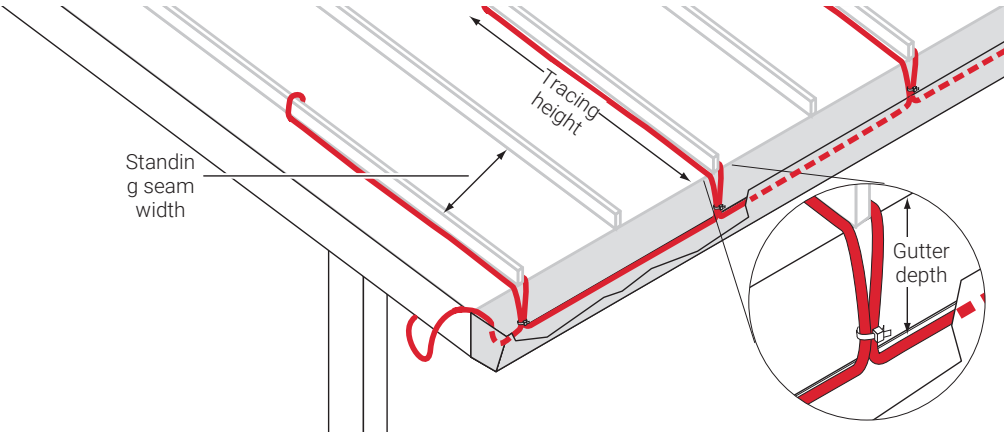

Figure 4 Layout on a standing seam roof
For sloped standing-seam metal roofs, ice dams may form at the roof edge. To maintain a continuous path for melt water to run off, route the heating cable along the seams as shown in figure 4 and follow the attachment recommendations in Step 2. Additional heating cable may be needed for downspouts and valleys.
- Note:** Attachment methods are purposely not shown in Figure 4. For attachment methods, proceed to Step 2. Attachment Methods on page 15.